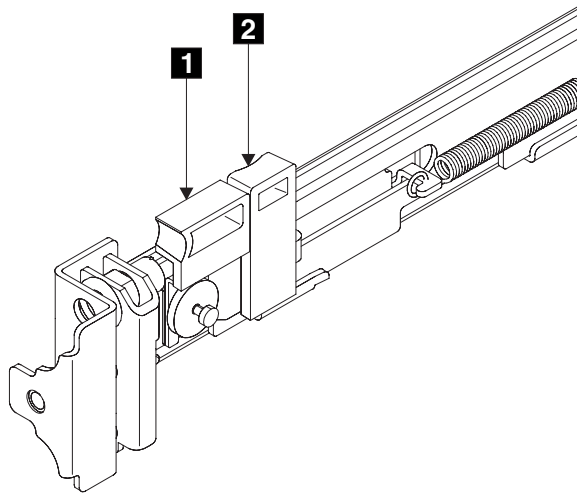

Figure 63. Retracting the latch lock carrier
2. Put your index finger against the side of the latch-lever, **1** in Figure 63, and put your thumb against the front of the latch-lock **2**.